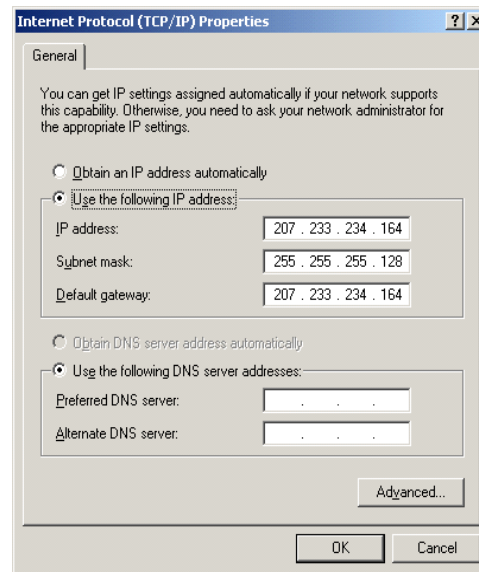

Figure A-1.5
5. Select **Use the following IP** address and type in the fields: IP address, Subnet mask, and Default gateway as shown in Figure A-1.5.
6. Ensure the button is selected in the **Use the following DNS Server addresses** field. Leave the **Preferred DNS server:** address block empty. Leave the **Alternate DNS server:** field empty (see Figure A-1.5).